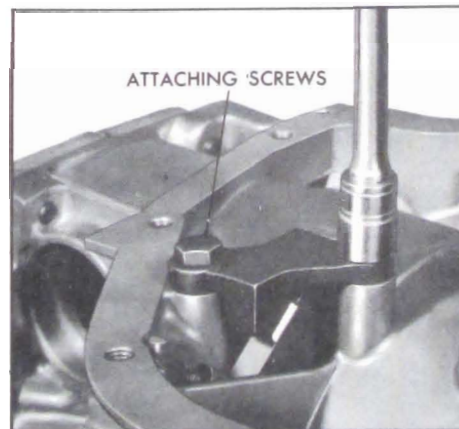

Figure 5-529
g. Remove attaching screws and parking bracket. See Figure 5-529.